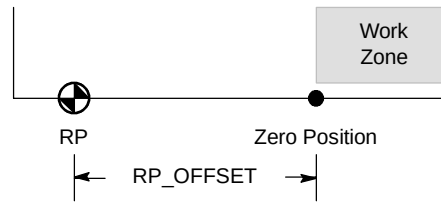

Figure 9-15 Relationship Between RP and Zero Position
- ❑ The Position Control wizard provides advanced reference point options that allow you to specify an RP offset (RP_OFFSET), which is the distance from the RP to the zero position. See Figure 9-15.